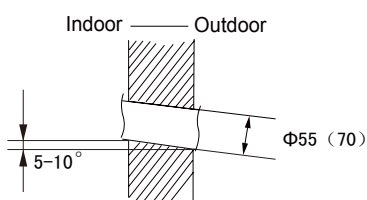

Fig.2
(2) Open a piping hole with the diameter of Φ55(70) on the selected outlet pipe position. In order to drain smoothly, slant the piping hole on the wall slightly downward to the outdoor side with the gradient of 5-10°. (As show in Fig.2)